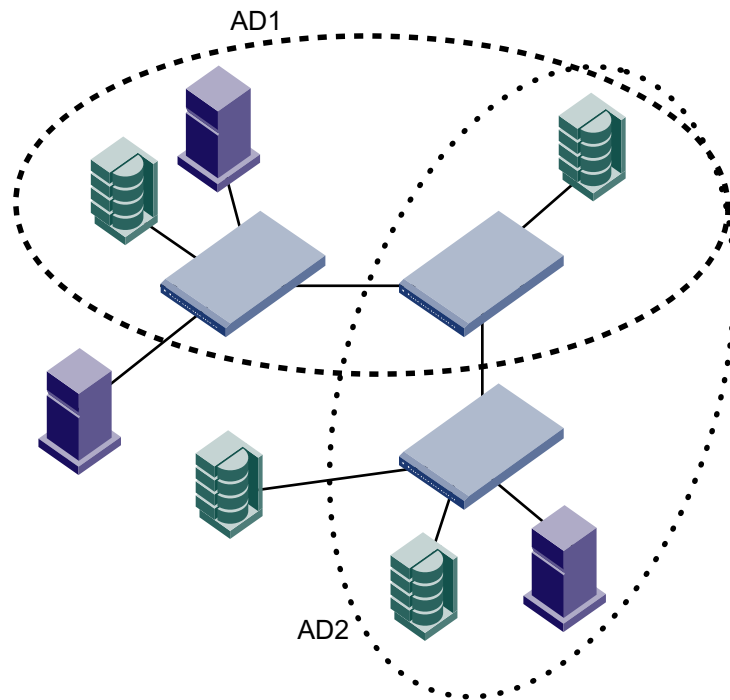
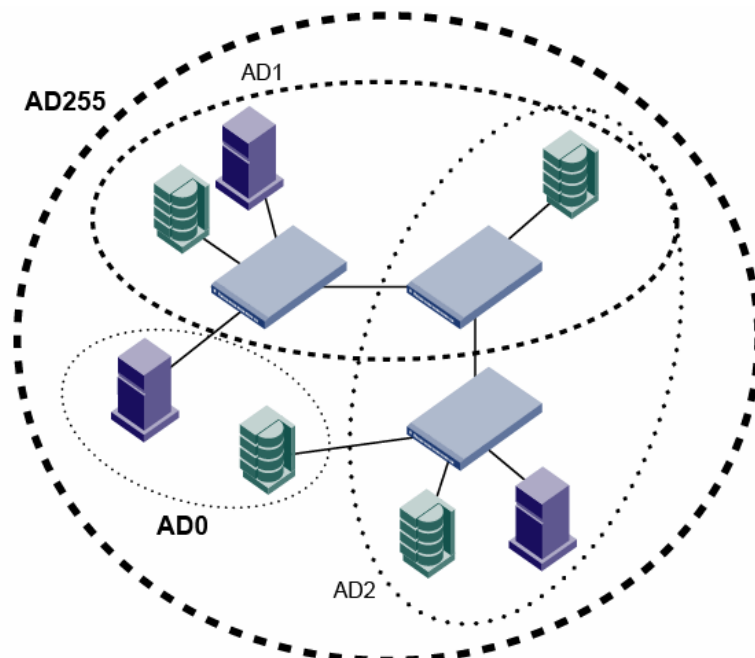

FIGURE 51 Fabric with two Admin Domains
FIGURE 53 Fabric with AD0 and AD255
Figure 51 on page 336 shows a fabric with two Admin Domains: AD1 and AD2.
- Share resources across multiple Admin Domains. For example, you can share array ports and tape drives between multiple departments. In Figure 51 on page 336, one of the storage devices is shared between AD1 and AD2.
In Figure 51 on page 336, AD1 and AD2 are user-defined Admin Domains.
Figure 53 on page 340 shows the same fabric from Figure 51 on page 336, but with ADO and AD255 shown. ADO contains the two devices that are not in any of the user-defined Admin Domains (AD1 and AD2). AD255 encompasses the entire physical fabric.